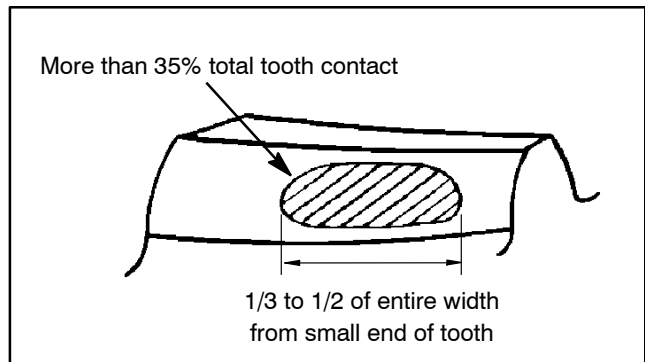

Figure 45
9. Ideal tooth contact should cover more than 35% of each tooth surface. The contact area should be in the center of each tooth and extend 1/3 to 1/2 way across each tooth from the toe (small) end (Fig. 45).